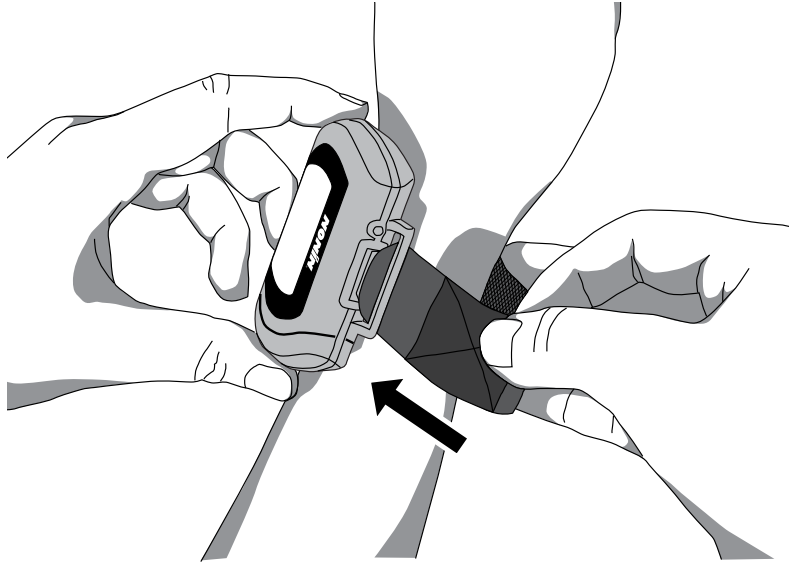

Figure 18: Thread Single Strap
3. Thread the rounded end of the strap through the strap bar by the sensor port (figure 18). Start from the back of the device and pull it towards the front of the device.